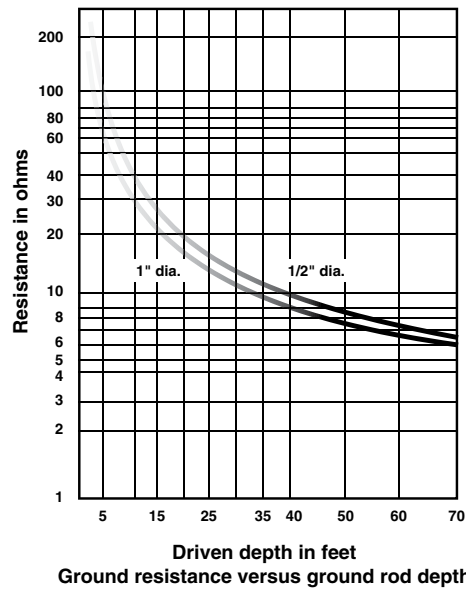

Figure 11
**Depth:** As a ground rod is driven deeper into the earth, its resistance is substantially reduced. In general, doubling the rod length reduces the resistance by an additional 40% (Figure 11). The NEC (2011, 250.52 (A)(5)) requires a minimum of 8 ft. (2.4m) in contact with the soil. NEC (2011, 250.52 (A)(5)(b)) states that rod electrodes of stainless steel and copper or zinc coated steel shall be at least 15.87mm (5/8 in) diameter, unless listed and not less than 12.70mm (1/2 in) in diameter.